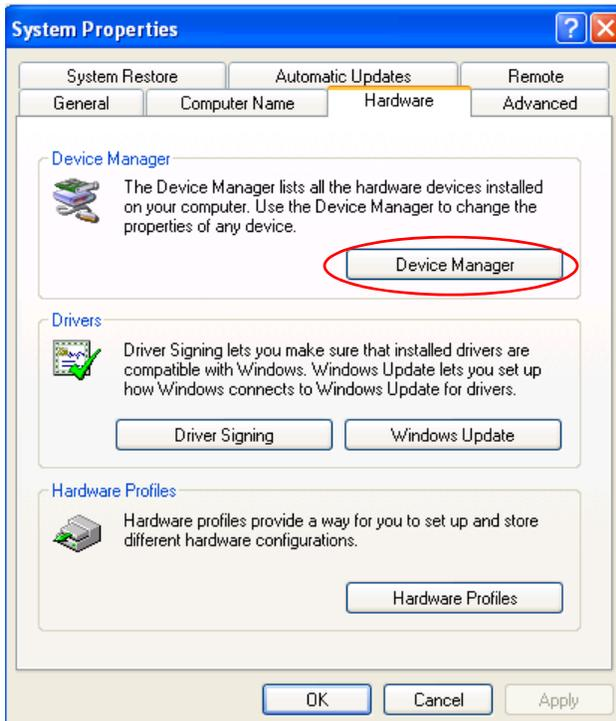

FIG. 5
3. On the “Hardware” page, click the “Device Manager” button. See FIG. 5.